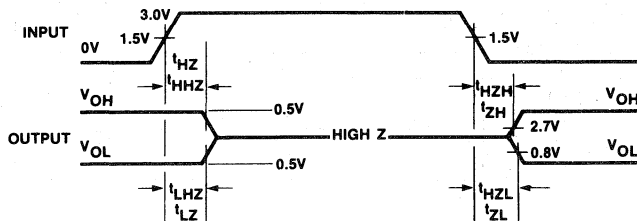

Figure 12. Waveform
**Switching Characteristics:**  $V_{CC} = 5.0V \pm 5.0\%$ ,  $0^{\circ}C \leq T_A \leq 75^{\circ}C$  See Figure 12 for test load (switches S1 and S2 are closed unless otherwise specified) typicals are for  $V_{CC} = 5V$ ,  $T_A = 25^{\circ}C$ .